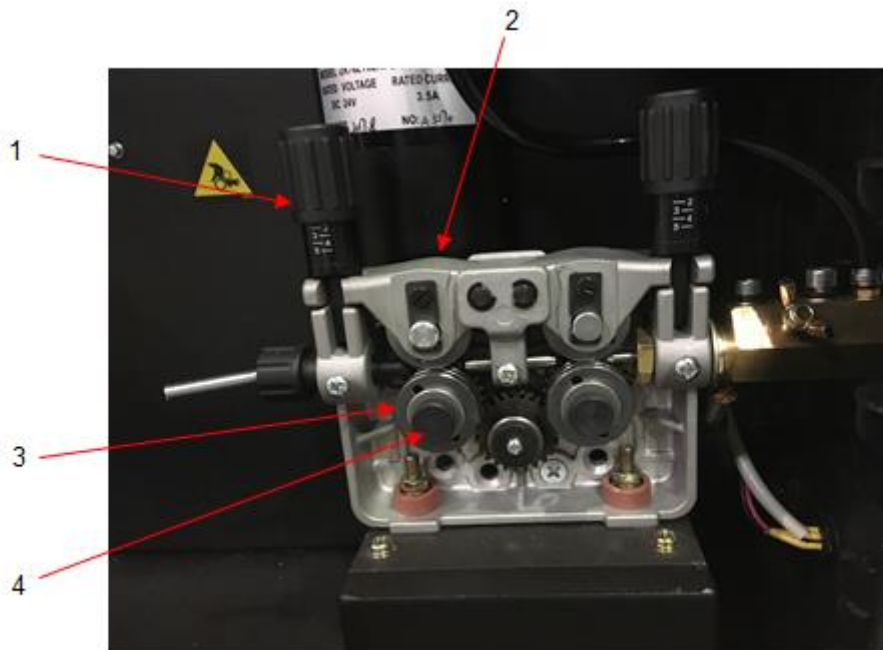

Figure 2
- b. Turn the drive tension adjustment knob (Figure 2) clockwise until the wire seems to feed smoothly without slipping.